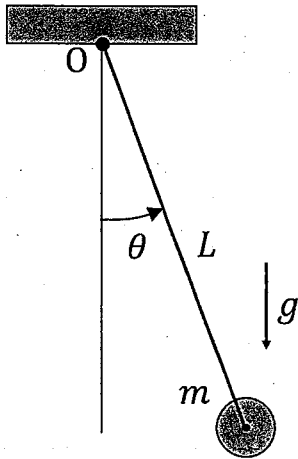

Figure 2-1
- I. Consider the motion of the pendulum of the point mass of mass m shown in Figures 2-1, 2-2 and 2-3. The rigid rod connecting the point mass to the supporting point O has a negligible mass and a length L , the swing angle is θ , and gravity acceleration is g . Answer the following questions. Here, θ and $\frac{d\theta}{dt}$ are very small and we can assume $\sin\theta \approx \theta$, $\cos\theta \approx 1$, $\theta^2 \approx 0$ and $\left(\frac{d\theta}{dt}\right)^2 \approx 0$. A is the amplitude of the forced displacement, ω is the angular velocity and t is time.
Consider the pendulum in Figure 2-1.
- (1) Derive the equation of motion for the pendulum in Figure 2-1.